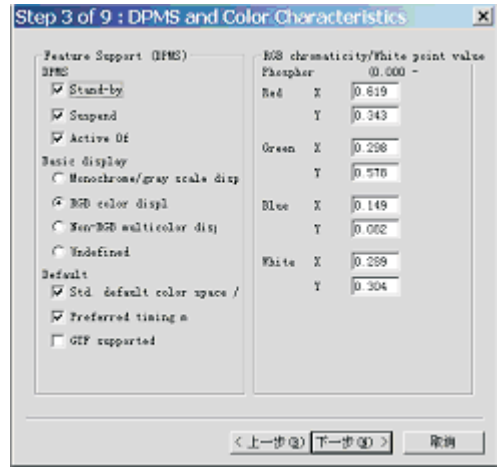

Fig. 16
- 2. Click Next , bring up Fig. 16.